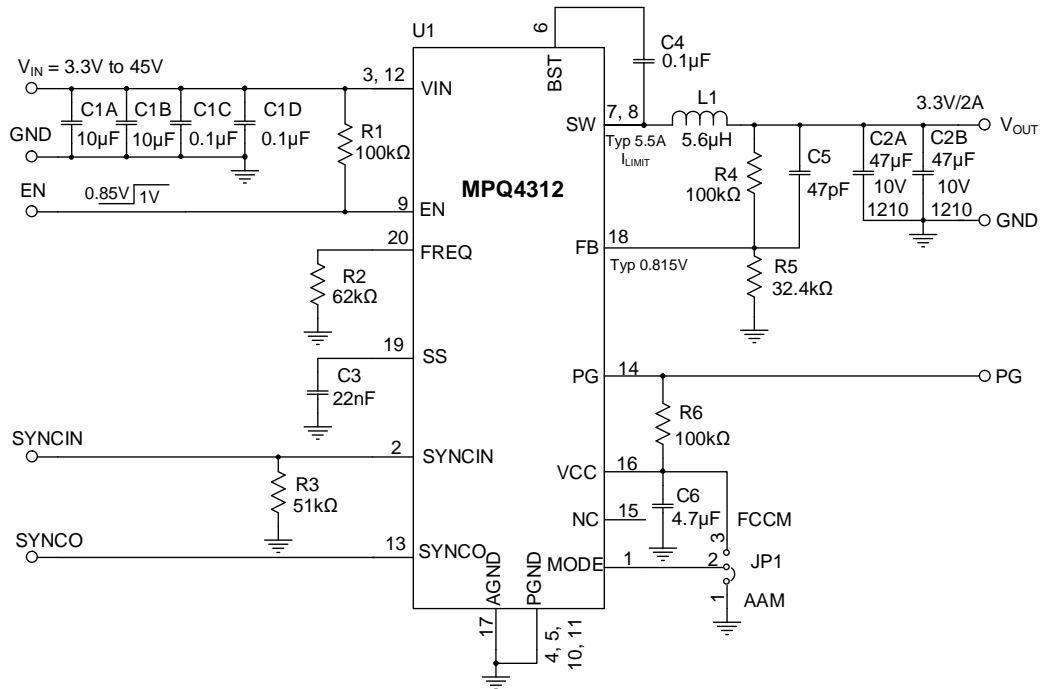

Figure 10: V_{OUT} = 3.3V, f_{sw} = 470kHz
- 9) The recommended PCB layout is based on Figure 10 on page 34.